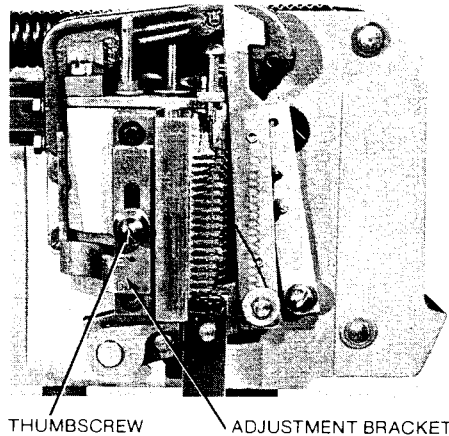

Figure 10.
- A. Loosen the thumbscrew (Figure 10).